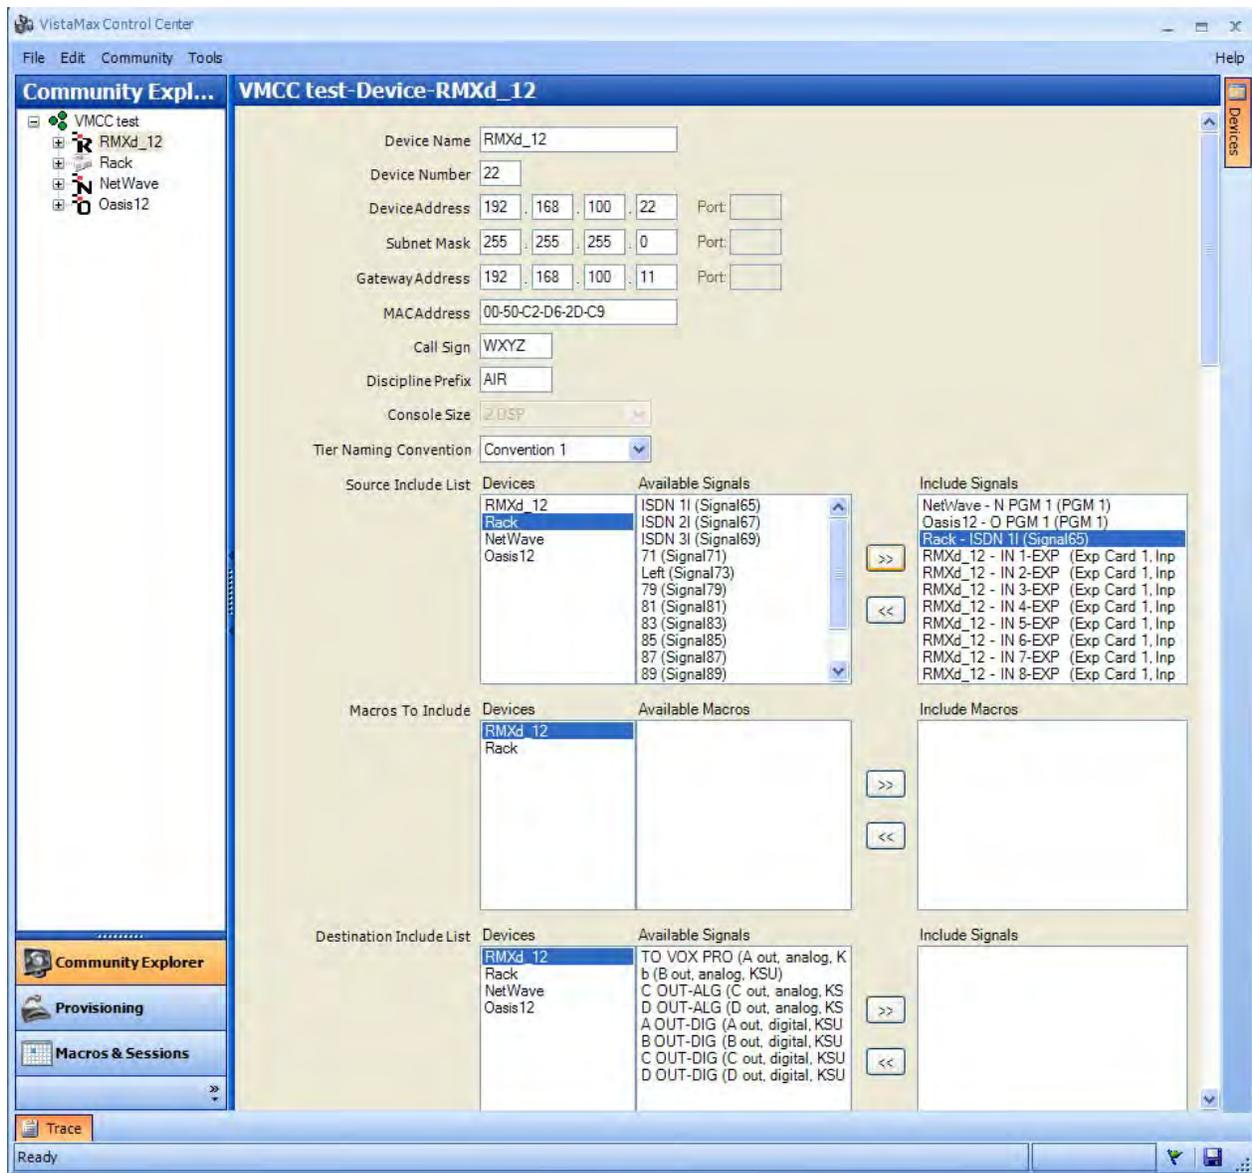

Figure 4-22. VMCC Main Console Edit Pane – Top of Pane
The next subsections cover parameters that can be edited in the main console edit pane (Figure 4-22). Click the console name to access this pane. The edit pane shows the main console entries. Use the vertical scrollbar to move up or down on the pane and view all the entries.
1. Select a device in the **Devices** list (such as **Rack** in Figure 4-22). All unhidden sources on that device appear in the **Available Signals** list.